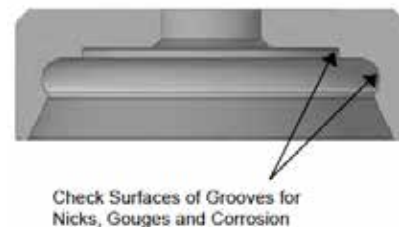

Figure 4-2 Retainer O-ring Grooves
- 4.1.3.1** The grooves (Figure 4-2) must be free of gouge marks, corrosion, pits and rust. Since the O-rings must seal against these surfaces, any irregularities can cause the valve to leak. Clean the groove by sanding it lightly with emery paper (400 grit). If this does not effectively clean the groove, replace this part.